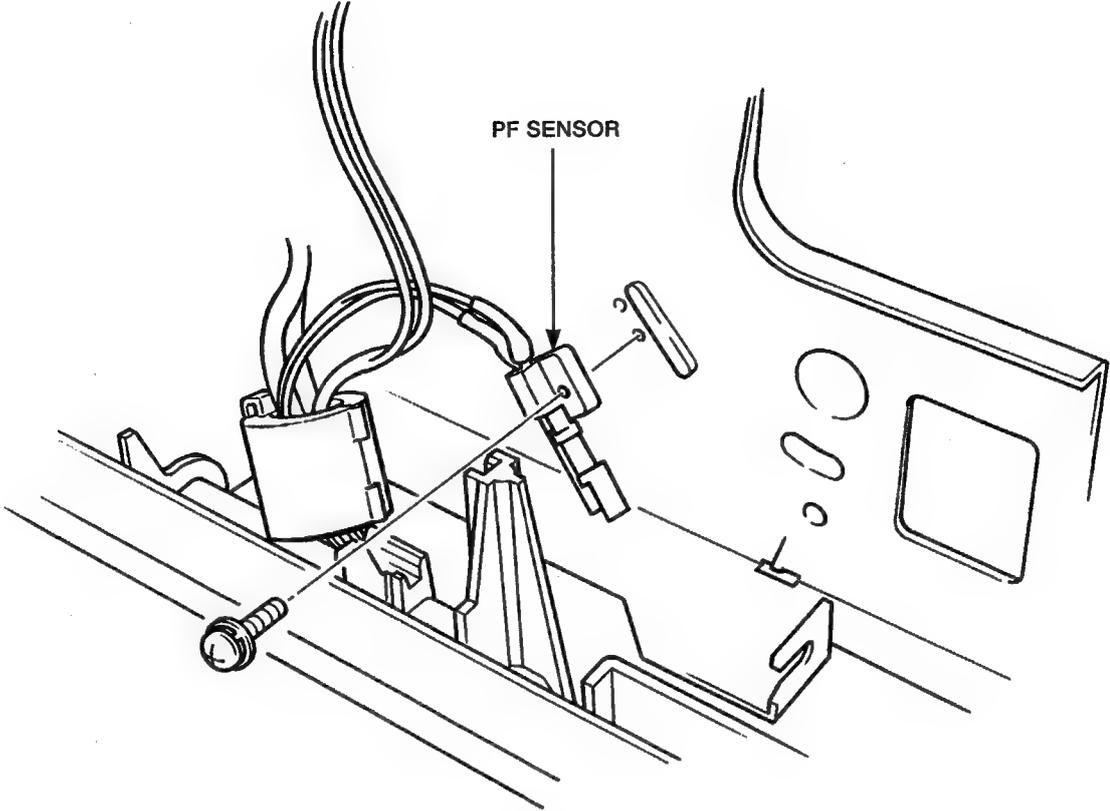

Figure 3-28 PF Sensor
2. Remove the PF sensor by removing the screw securing it to the left side frame (see Figure 3-28).